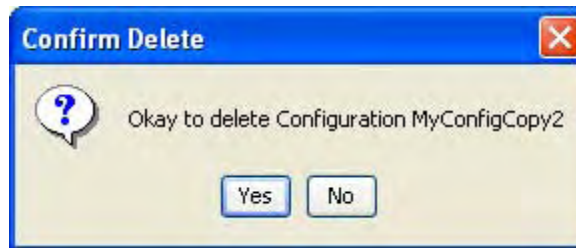

Figure 7.8 Confirm Delete of a Configuration
3. A warning message (Figure 7.8) will open asking you whether you really want to delete the selected configuration. Click **Yes**, the warning message will close and the configuration name will no longer appear in the **Name** list on the **Configuration Editor**.